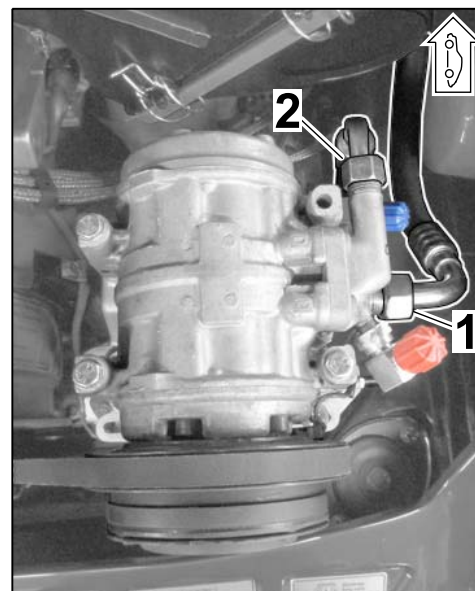

Figure 4
1.2.1 Unscrew hose connections. Close off connections and lines using stoppers (⇒ *Figure 4*).